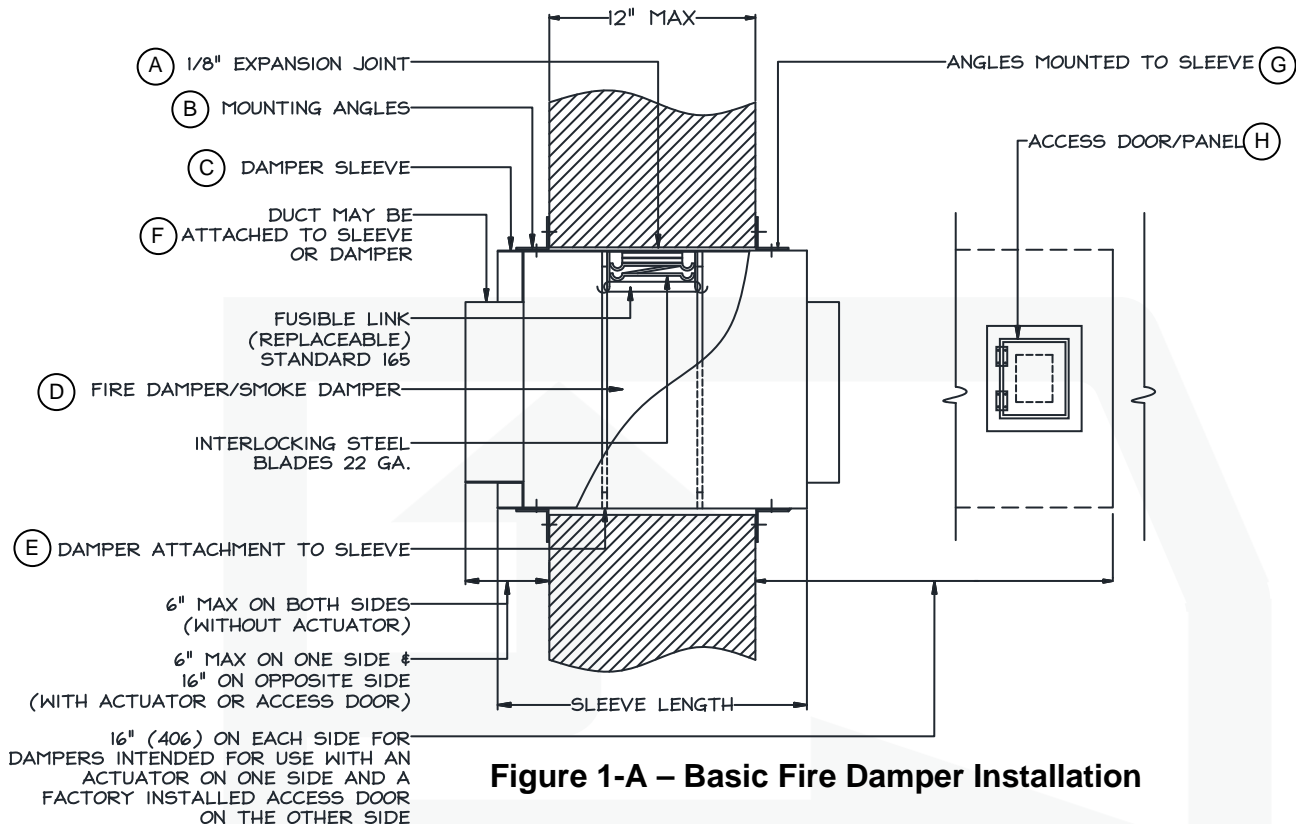

Figure 1-A – Basic Fire Damper Installation
- a. Secure mounting angles to sleeve ONLY on 8" centers (203) with:
- i. 1/2" (12) long welds
- ii. 3/4" (6) bolts and nuts
- iv. Minimum 3/16" (5) steel rivets
- a. INSTALL AS SHOWN IN FIGURE 1-A.